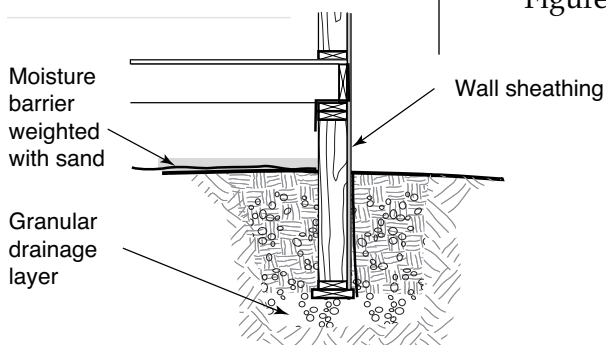

FIGURE 59
- ◆ For unexcavated crawl spaces, backfill both sides of the wall (see Figure 59).